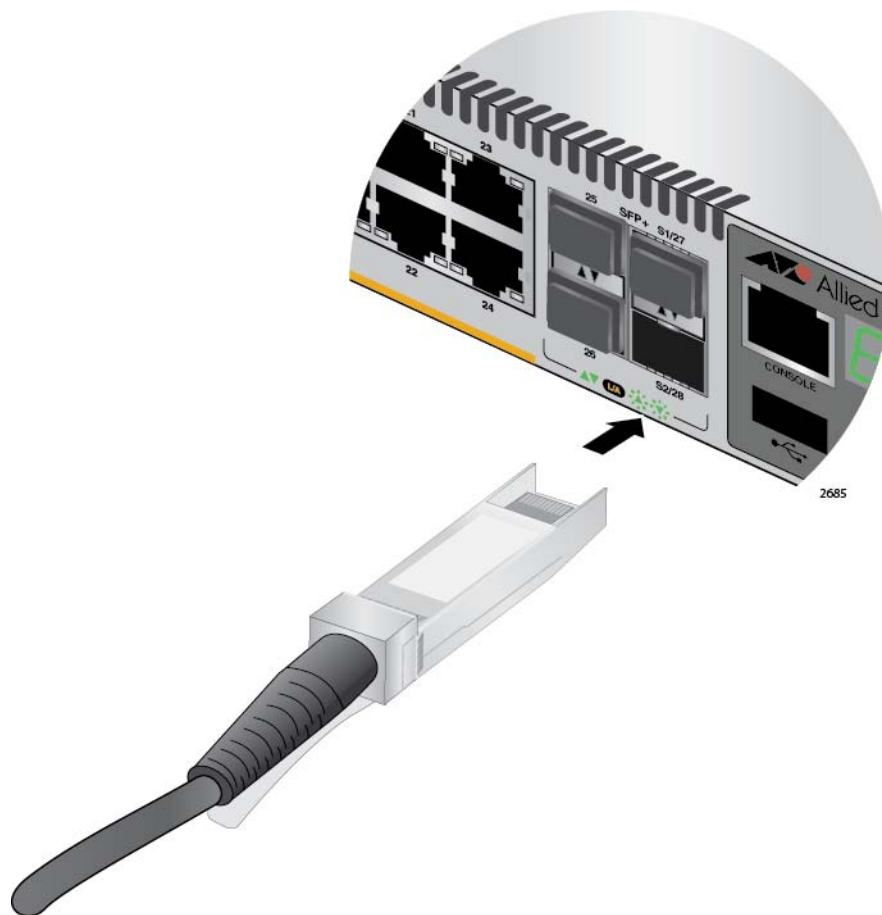

Figure 53. Installing a Direct Attach Cable in Slot S2
7. Position the transceiver with the release tab on the bottom and slide it into the slot until it clicks into place, as shown in Figure 53 on page 98.